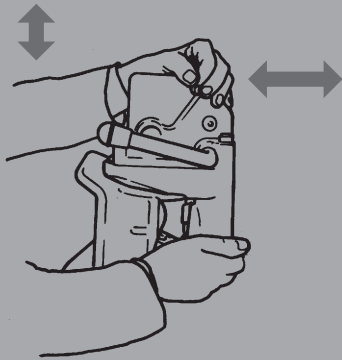

fig. 6
- Grip coupling head (not jaw funnel) with both hands when uncoupled and move vigorously in longitudinal direction (see fig. 6): **No longitudinal play** is allowed.
- Move coupling head up and down with appropriate tool (see fig. 6): **Vertical play** may not exceed 3 mm measured at coupling head (centre axis of coupling pin).